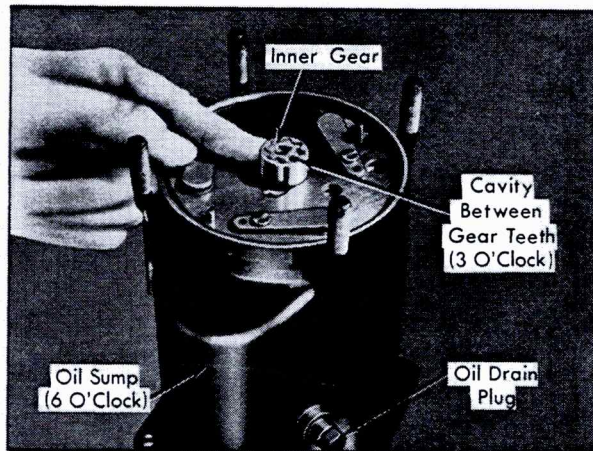

Fig. 1-78 Positioning Oil Pump Gears
19. Position outer oil pump gear over inner gear with previously applied identification mark up and, when standing facing oil sump, position outer gear so that it meshes with inner gear at the 9 o'clock position and cavity between gear teeth is at 3 o'clock position, Fig. 1-78.